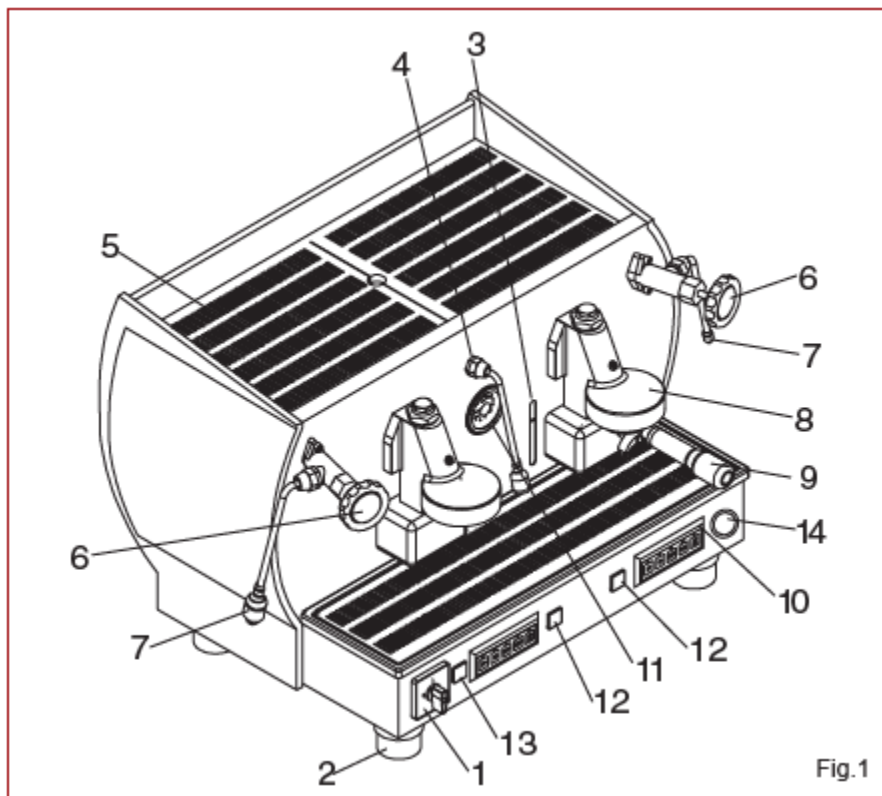

Fig.1
- the coffee switch must be in position 1 for the first use. The machine fills the boiler until the water level reaches the probe (see level indicator, 3 Fig. 1), completely covering the heating element.